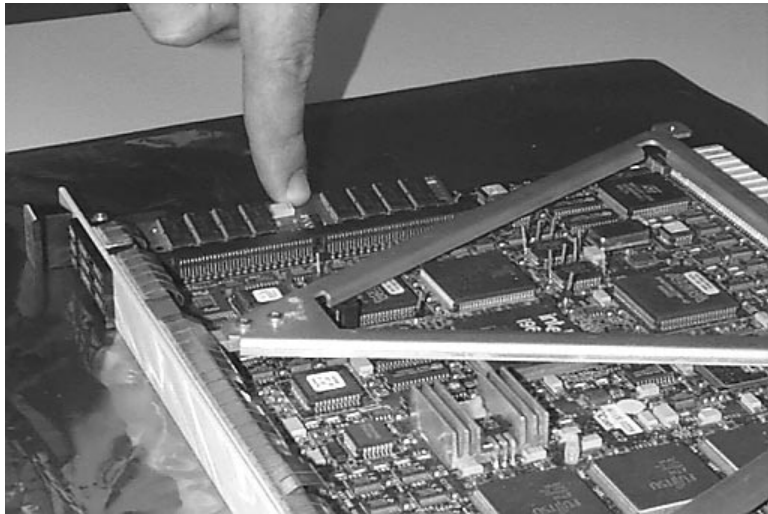

Figure 2-10 Pushing the 32MB SIMM in Place
- 5 With one or two fingers (not on the chips) gently press down. A click is heard when the SIMM is in place (Figure 2-10).